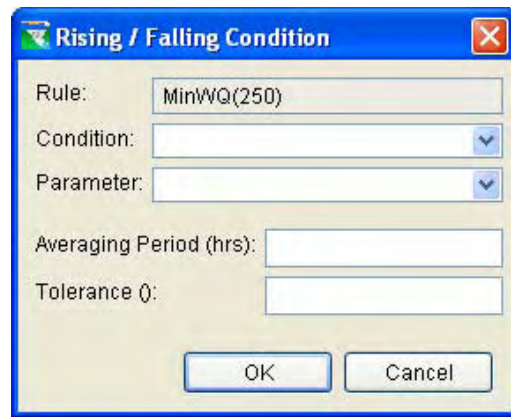

Figure 11.88 Rising / Falling Condition
1. Click the Rising/Falling Condition **Edit** button and the **Rising/Falling Condition** dialog box will open (Figure 11.88).